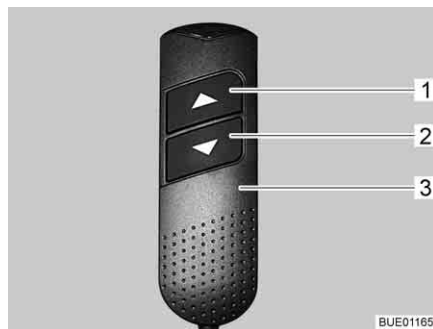

Fig. 103 Manual control unit
- On the manual control unit (Fig. 103,3) push the "▼" button (Fig. 103,2) and keep it pressed. The foot section is retracted. The head sections are raised.
- On the manual control unit (Fig. 103,3) push the "▲" button (Fig. 103,1) and keep it pressed. The foot section is extended. The head sections are lowered.
- On the manual control unit (Fig. 103,3), press the "▼" button (Fig. 103,2) or "▲" button (Fig. 103,1) until the desired position is reached.